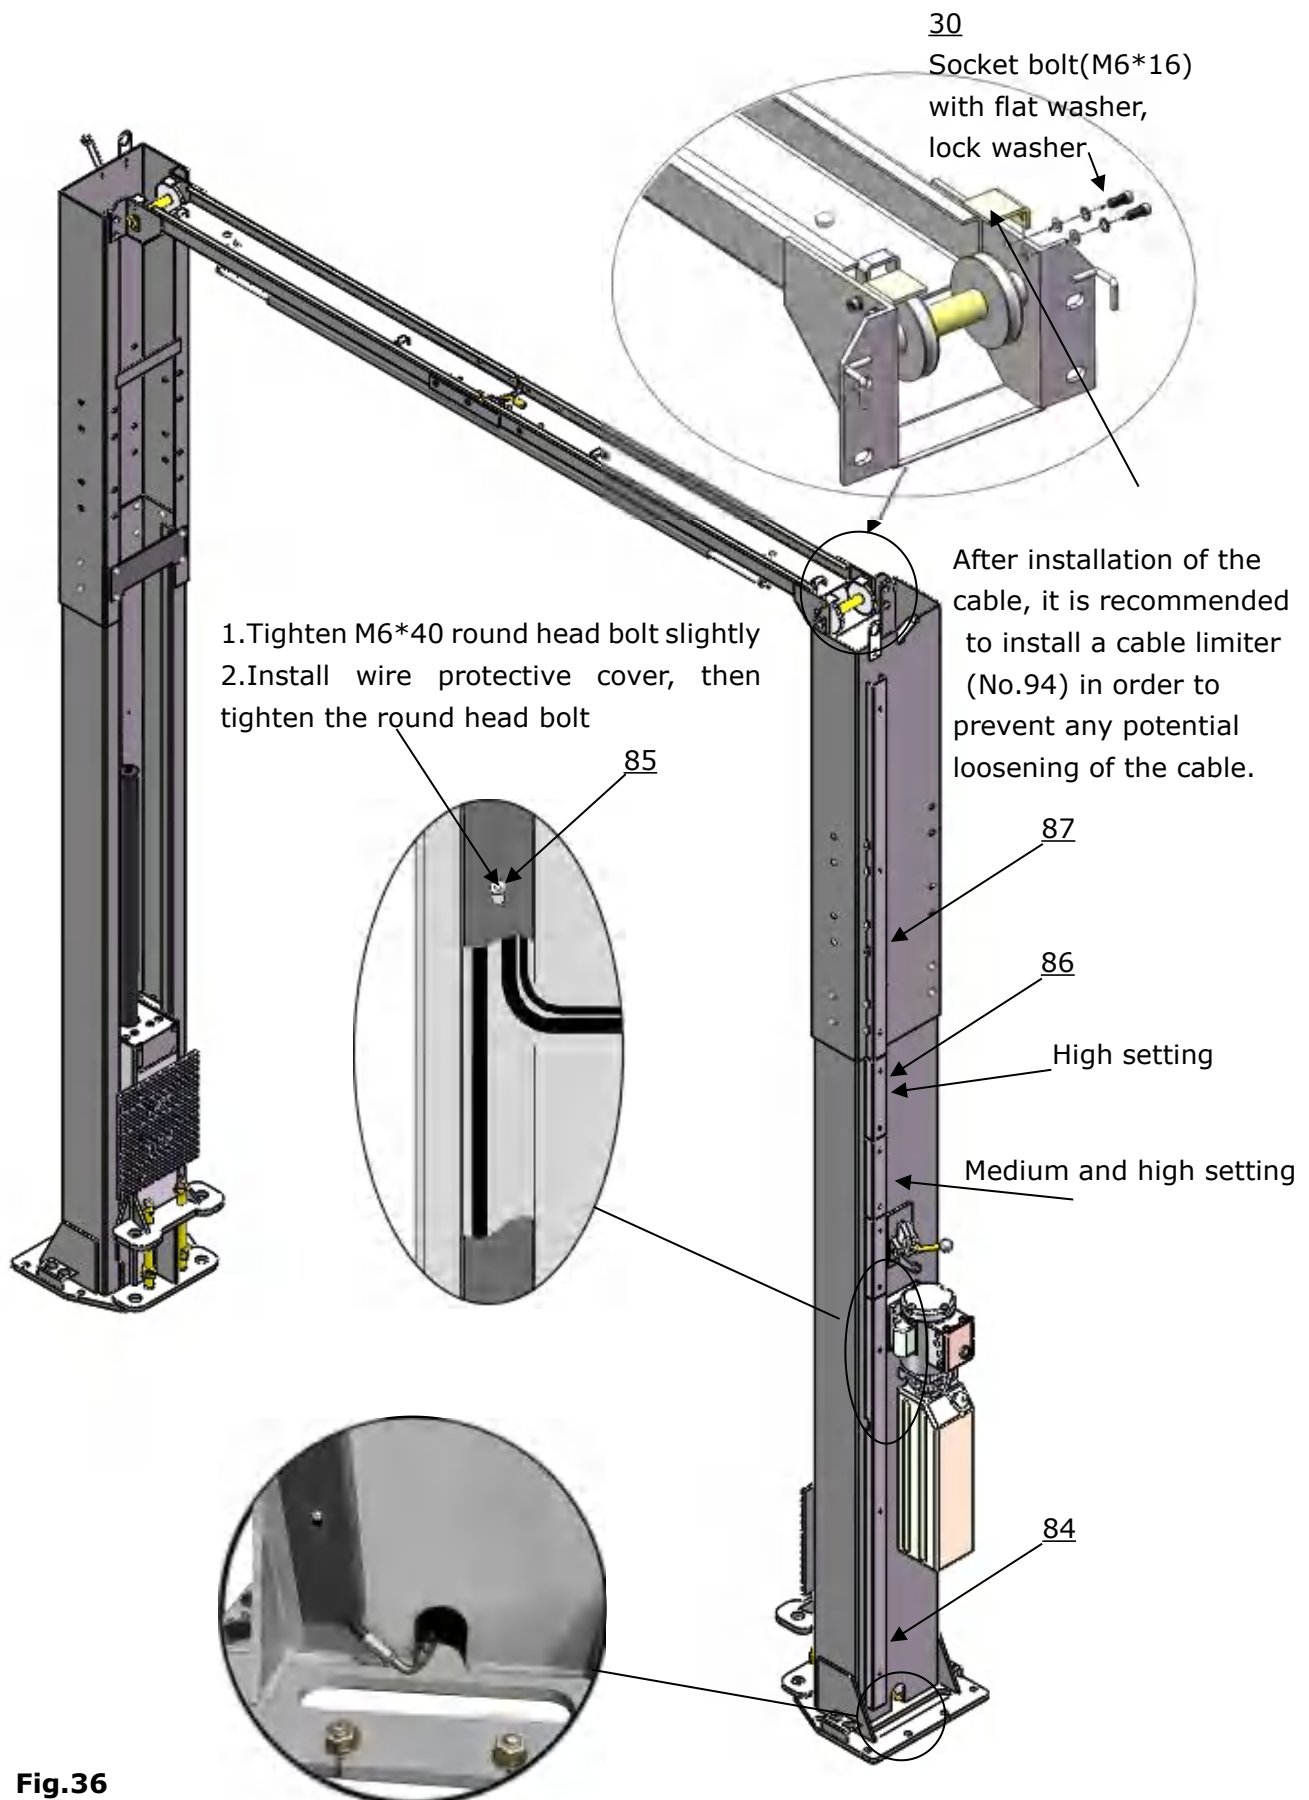

Fig.36
N. Install wire protective cover and sync cable limit plate. (See Fig.36)